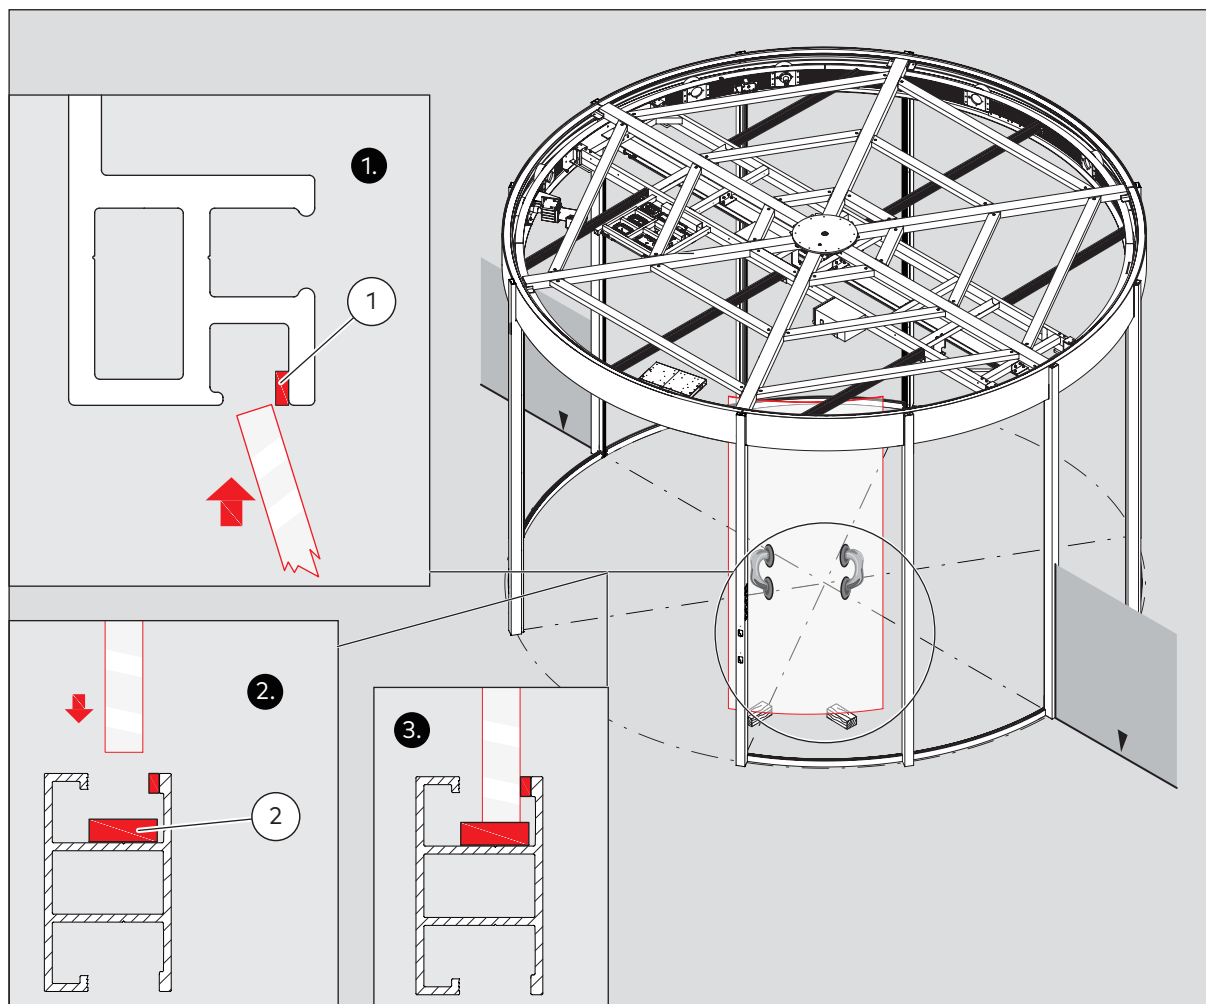

Fig. 57 Glazing the drum walls D > 4800
1. Make sure that the foam sealing tape (5 mm, Fig. 57/1) and the plastic blocks (Fig. 57/2) are in place before glazing the drum wall.